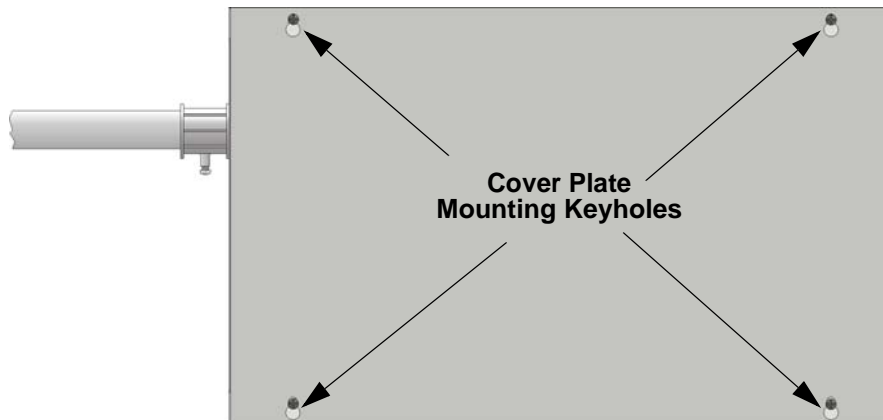

Figure 4-7 Cover Plate Mounting Keyholes and Cover Mounting Screws Alignment
- Align the cover plate mounting keyhole over the cover mounting screws. See Figure 4-7.
- Slide the cover into place and tighten the cover mounting screws. See Figure 4-7.